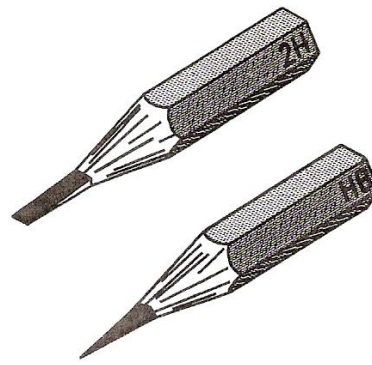

Figure 8 - Sharpening of 2H (or 3H) and HB Pencil Points
- **Pencils** - can be purchased in nine grades of 'hardness' - from H to 9H - and six grades of 'blackness' - from B to 6B. There are also two other grades - F and HB. Two pencils are advisable - a 2H or 3H for drawing with instruments and an HB for freehand drawing such as lettering. Many draughtsmen like to sharpen their 2H pencils to a 'chisel' point and their HB pencils to a round point - Figure 8. Keep your pencils sharp by having either a small smooth file at hand, or a piece of fine sandpaper on which the pencil point can be sharpened as needed.